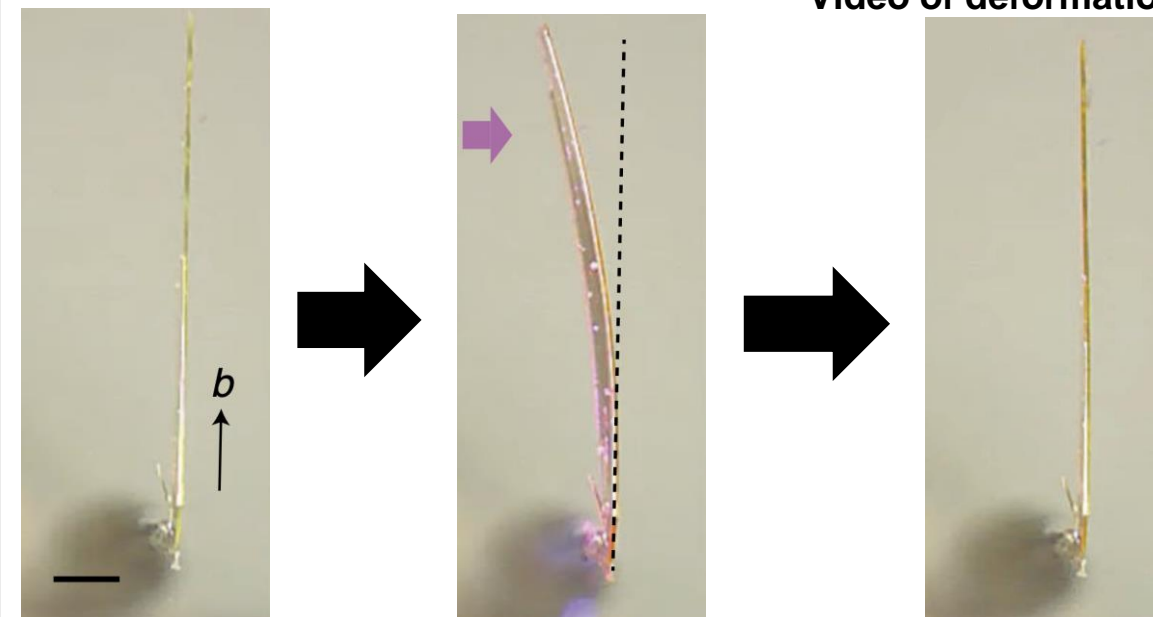

Fig. 4: Light-induced bending in photochromic chiral salicylideneamine crystal. [4]
- Taniguchi et al studied the light-induced bending of a material in a computational experimental study (Fig. 4).